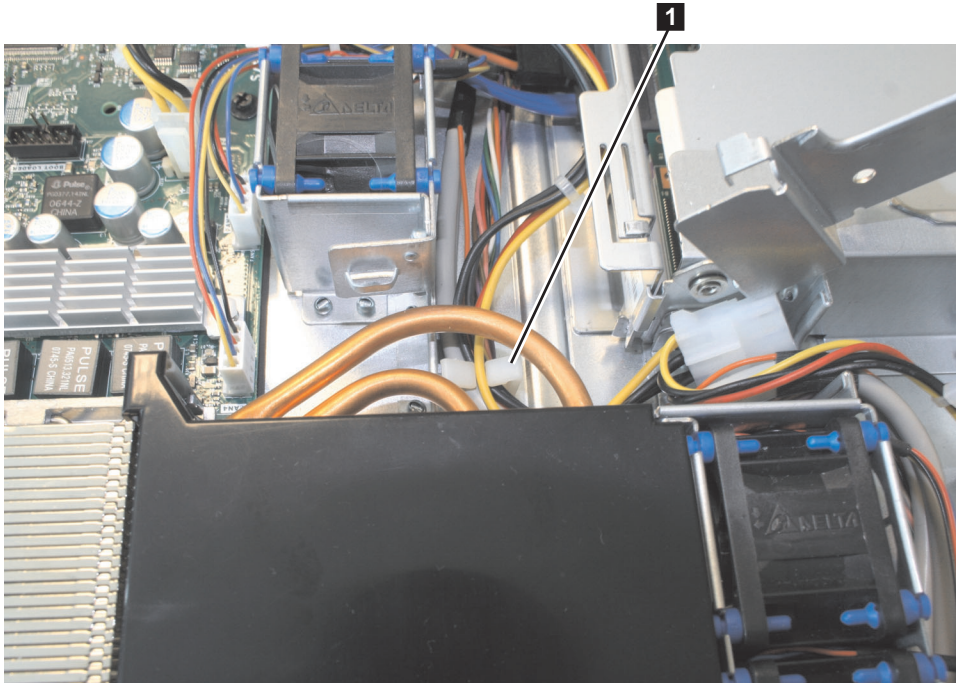

Figure 161. The retention clip for the SAN Volume Controller 2145-8A4 power-supply cables
6. Route the power-supply cable with the P5 connector to the CD/DVD interface card and secure it under the retention-clip **1**, as shown in Figure 161 on page 151, on the chassis.